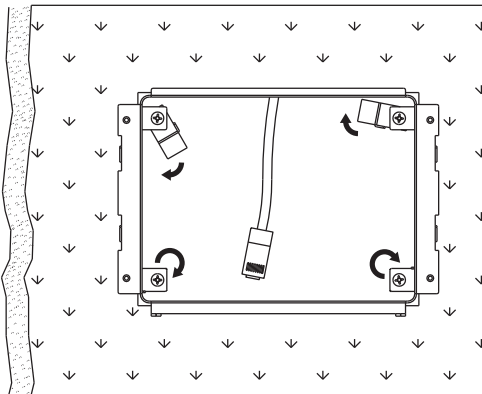

Figure 3
- b. Rotate each of the retention clips clockwise (as shown in Figure 3) so that the clip grasps the back of the wallboard and the clip stop comes to rest.